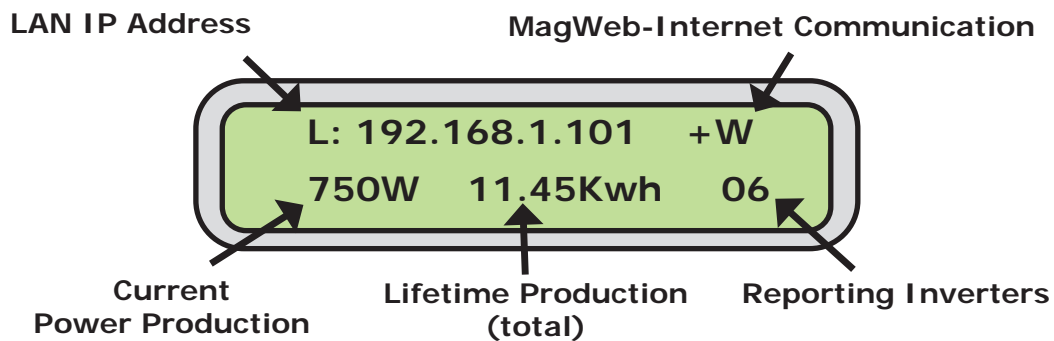
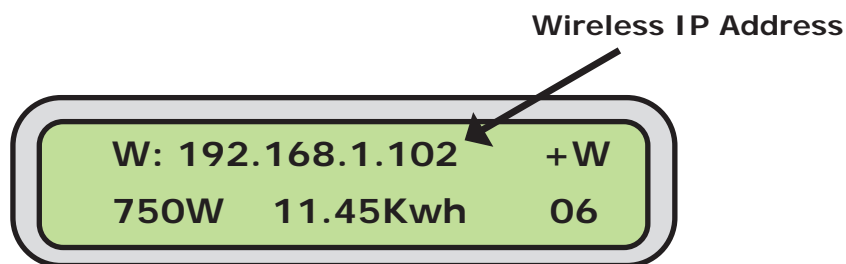

Figure 14, LAN Connection Operating Interface
Figure 15, Wireless Connection Operating Interface
3. Operating interface. The next screen to appear depends on whether the MagWeb GT is connected to the internet via LAN (Figure 14), or is connected via Wireless (Figure 15).
Exit Menu: Press to return the MagWeb GT to the normal operating screen (see Figure 14 or 15).
2. Using a standard web browser on your computer, enter the IP address displayed on your MagWeb GT (as in Figure 14) into the computer's URL search field.
11. Using the web browser on your computer, enter the LAN IP Address (as in Figure 14) in the URL search field.
10. Using web browser on your computer, enter the LAN IP address (as in Figure 14) in the URL search field.
3. Using web browser on your computer, enter the wireless address (as in Figure 15) in the URL search field.